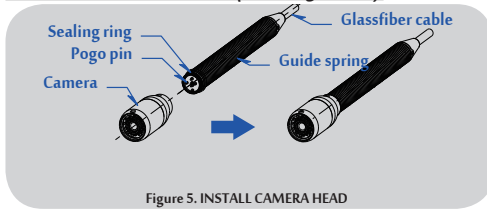

Figure 5. INSTALL CAMERA HEAD
1. Install Camera Head (See Figure 5)